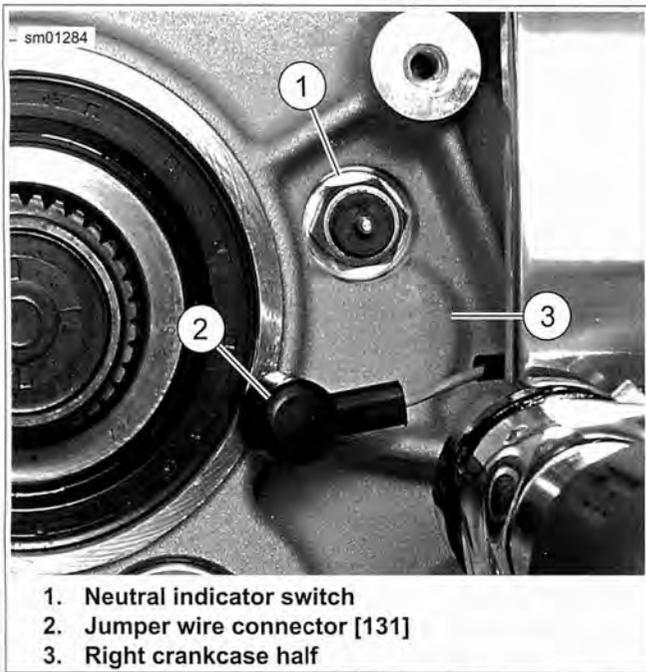

Figure 6-105. Neutral Indicator Switch: All Models (XL Shown)
5. See Figure 6-105. Unplug jumper wire connector (2) from neutral indicator switch (1). Remove switch with washer from right crankcase half (3).